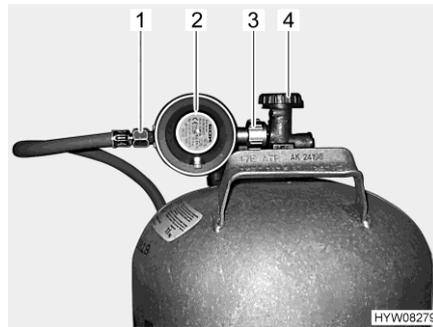

Fig. 90 Gas bottle connection
- Close the regulator tap (Fig. 90,4) on the gas bottle. Pay attention to the direction of the arrow.
- Hold the gas pressure regulator (Fig. 90,2) and open the knurled nut (Fig. 90,3) (normally a left-hand thread).
- Remove the gas pressure regulator and the gas tube (Fig. 90,1) from the gas bottle.
- Position the gas pressure regulator (Fig. 90,2) with gas tube (Fig. 90,1) on the gas bottle and tighten the knurled nut (Fig. 90,3) (normally a left-hand thread). **Do not** tighten too firmly.